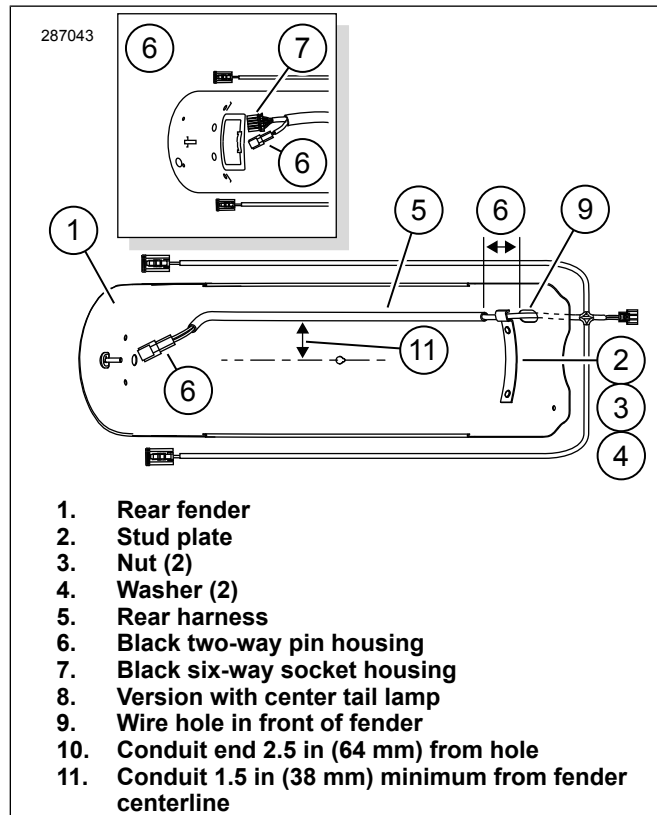

Figure 3. Install Rear Fender Harness
1. See Figure 3. Clean with a mixture of 50 percent isopropyl alcohol and 50 percent distilled water. Allow to dry completely. Do not use solvents or harsh chemicals that could damage painted surfaces.
2. Get the stud plate (2) removed from the OE fender, and with the channel nearest the wire hole, loosely assemble the plate to the inside front of the fender with the OE nuts (3) and washers (4). Do not fully tighten.